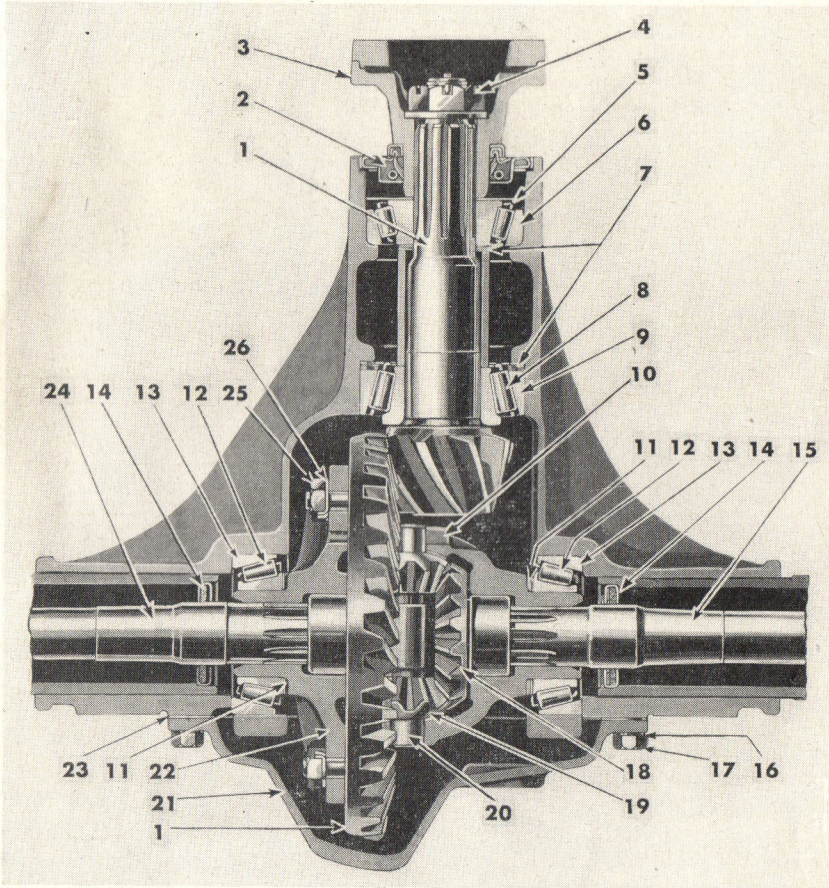
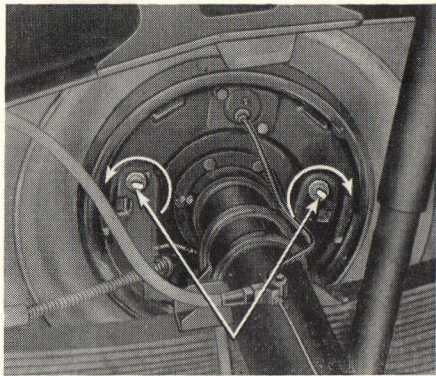

FIG. 28—FRONT AXLE DIFFERENTIAL—Model 4WD
FIG. 31—BRAKE ADJUSTMENTS
The front axle is a live driving unit with hypoid drive gears, Fig. 28 and spherical steering knuckles, Fig. 31, containing constant velocity type axle shaft universal joints.
3. At each *left front* and *left rear* wheel turn the *forward* shoe adjusting cam *clockwise* until the shoe is tight against the drum. Turn the cam in the opposite direction until the wheel rotates freely without brake drag. Turn the *rear* shoe adjusting cam *counter-clockwise* until the shoe is tight against the drum, then turn the cam in the opposite direction until the wheel rotates freely without drag. See Fig. 31.